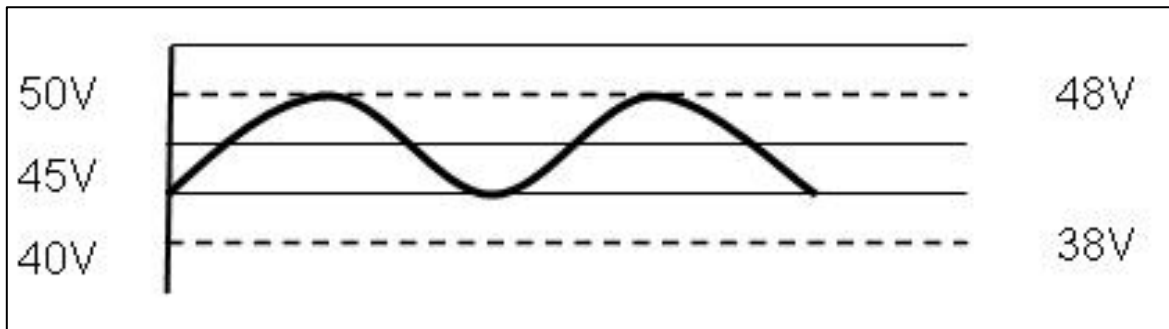

Figure 1 - Waveform Example of PSU Output
11.4 Check that the obtained waveform is as in Appendix A (Figure 1). If the lower limit of the waveform is less than 38V, replace the PSU.